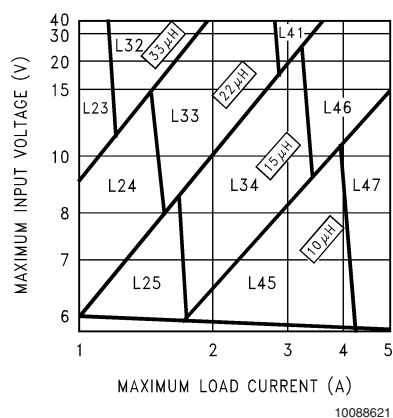
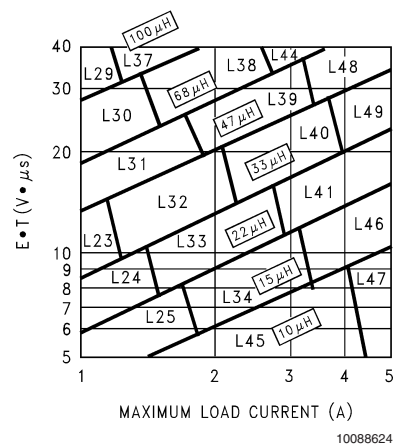

FIGURE 3. LM2678-3.3
FIGURE 6. LM2678-ADJ
**Step 3:** Determine the inductor required by using one of the four nomographs, *Figure 3* through *Figure 6*. Table 1 provides a specific manufacturer and part number for the inductor.
**Step 5:** Determine an input capacitor from Table 4 for fixed output voltage applications. Use Table 2 to find the specific capacitor type. For adjustable output circuits select a capacitor from Table 2 with a sufficient working voltage (WV) rating greater than  $V_{in\ max}$ , and an rms current rating greater than one-half the maximum load current (2 or more capacitors in parallel may be required).
**Step 3:** Use the nomograph for the 3.3V device, *Figure 3*. The intersection of the 16V horizontal line ( $V_{in\ max}$ ) and the 4A vertical line ( $I_{load\ max}$ ) indicates that L46, a 15μH inductor, is required.
**Step 3:** To use the nomograph for the adjustable device, *Figure 6*, requires a calculation of the inductor Volt•microsecond constant ( $E \cdot T$  expressed in  $V \cdot \mu s$ ) from the following formula:
Using *Figure 6*, the intersection of 27V•μS horizontally and the 3.5A vertical line ( $I_{load\ max}$ ) indicates that L48, a 47μH inductor, or L49, a 33μH inductor could be used. Either inductor will be suitable, but for this example selecting the larger inductance will result in lower ripple current.
**Important Note:** When using the adjustable device in low voltage applications (less than 3V output), if the nomograph, *Figure 6*, selects an inductance of 22μH or less, Table 6 does not provide an output capacitor solution. With these conditions the number of output capacitors required for stable operation becomes impractical. It is recommended to use either a 33μH or 47μH inductor and the output capacitors from Table 6.